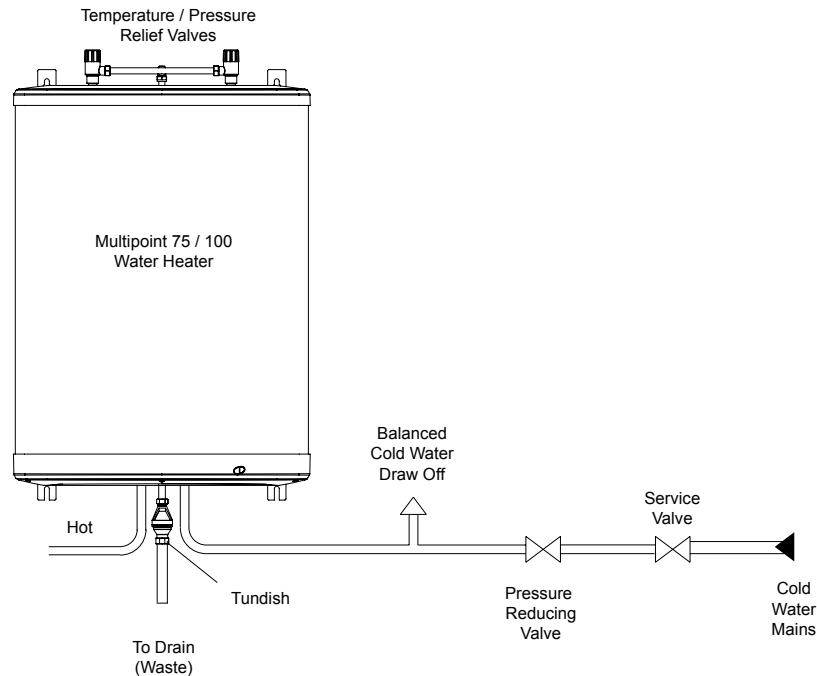

Figure 3: Plumbing Schematic
- 4.2 Plumb the Multipoint water heater as shown below in Figure 3. Ensure the Pressure Reducing Valve is installed in the correct orientation by reference to the direction of the flow arrow marked on it.